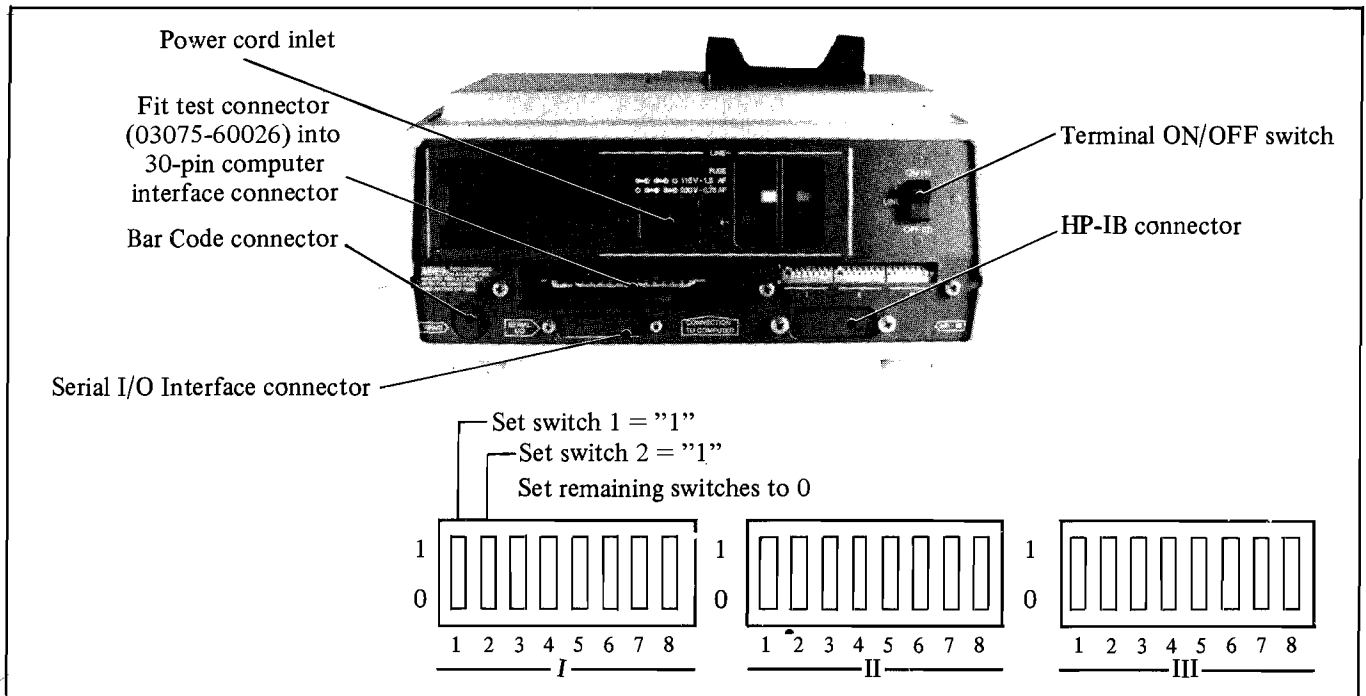

Figure 16-5 3075A/3076A Terminal Configuration Switch Settings For Full Terminal Test
- 1) Remove the rear panel terminal configuration switch cover. Set the terminal for the full self test by setting switches I-1 to 1, I-2 to 1 and the remaining switches to 0 (see figure 16-5).
- 2) Fit the Option 030 communications test connector (HP part number 03075-60026) onto the terminal rear panel 30-pin interface connector (see figure 16-5). The connector "cable-inlet" aperture fits over the 10 mm (0.4 ins.) wide lug on the right-hand side of the terminal connector inlet, the other end of the connector must then be firmly pressed into position.